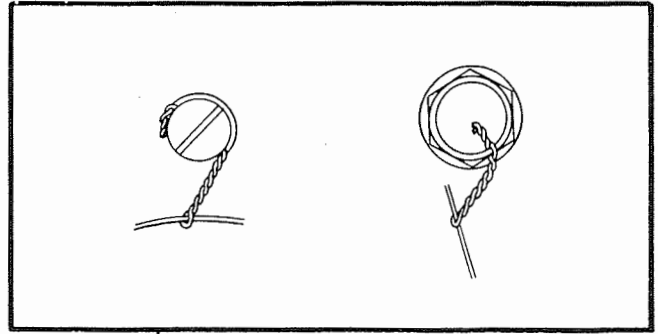

Figure 7-4. Lockwiring to Special Parts
- a. When a screw or nut must be wired to a part other than another screw or nut, lockwire as illustrated in figure 7-4.